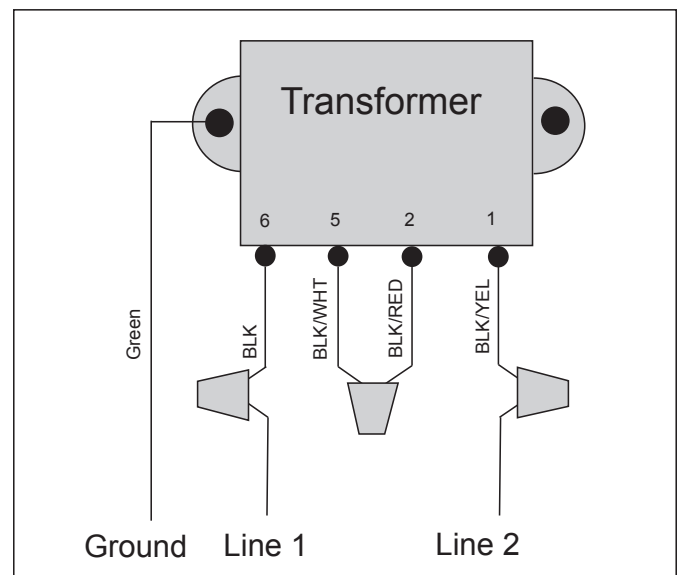

Figure 3. Factory Wiring for 220 Volt Operation
Model K-2000 is factory wired for 220VAC service. If available electrical service is 110VAC, the power supply wiring must be changed to operate on 110VAC as shown in Figures 3 and 4.
4. For 220 volt operation, connect the black wire to line 1 and connect the black wire with the yellow stripe to line 2. See Figure 3.
Refer to Figures 3 and 4 and do the following:
1. Cut the splice cap connecting the black/white and the black/red wires. See Figure 3.